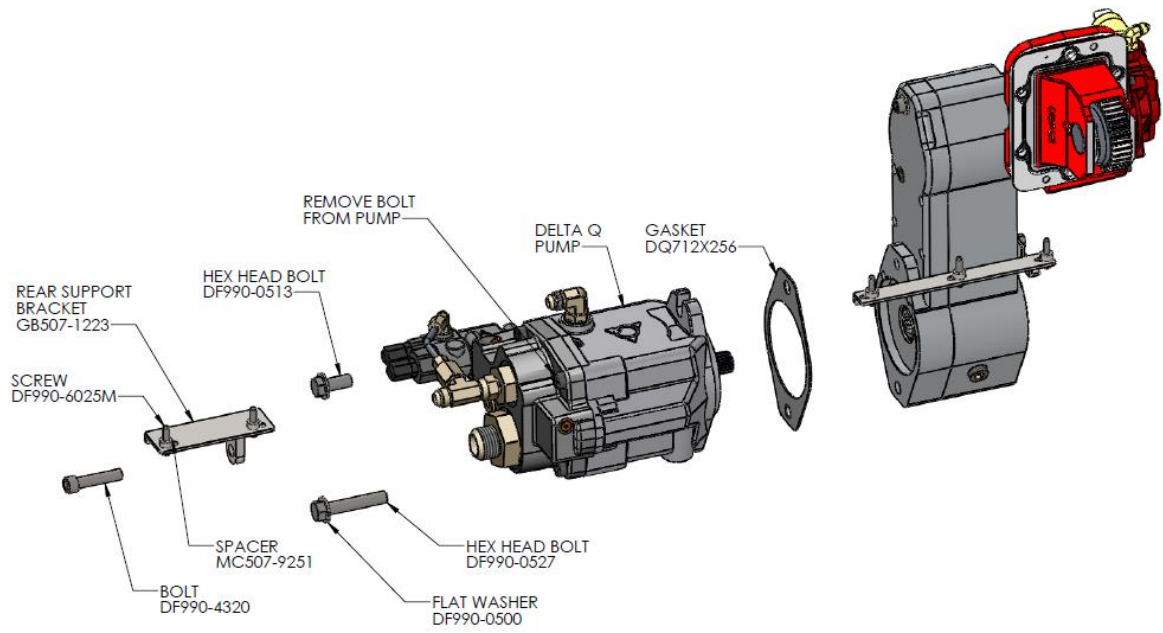

Figure 6
3. Remove the bolt from the port cap of the pump as shown in figure 6. This will be used to add the rear support bracket.